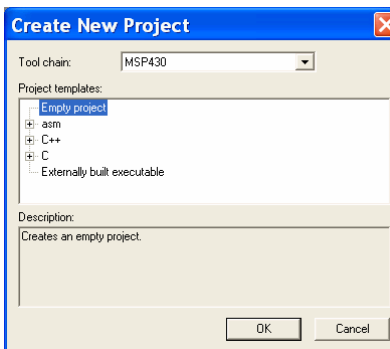

Figure 2. Create New Project dialog box.
1.1. To create a new project, choose *Project > Create New Project*. The Create New Project dialog box appears (Figure 2), which lets you base your new project on a project template. Make sure the Tool chain is set to MSP430, and click *OK*. For this tutorial, select the project template *Empty project*, which simply creates an empty project that uses default project settings.